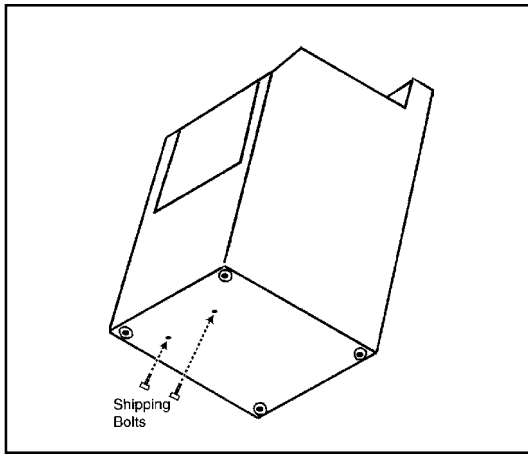

Figure 1-4
3. Locate the two (2) ½" hex head shipping bolts extending up through the bottom of the base (Figure 1-4). The shipping bolts are near the center of the base toward the front of the washer. Remove both bolts, freeing the tub and suspension. Do not be alarmed should the tub assembly shift when the last bolt is removed. Some shifting of the tub is normal.